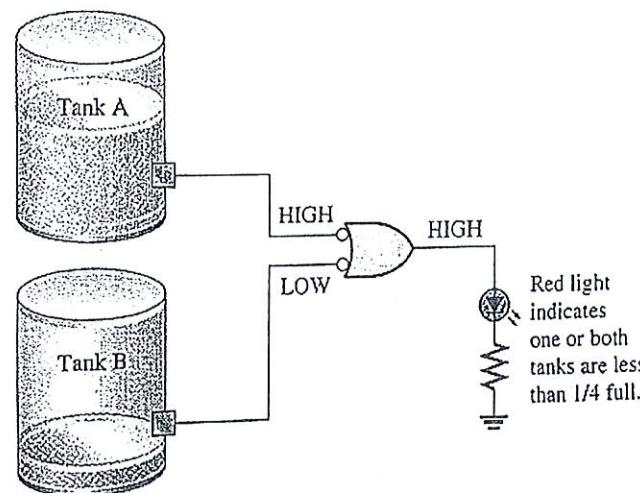

Figure 4 (c) / Rajah 4 (c)
- (c) A manufacturing plant uses two tanks to store certain liquid chemical that are required in a manufacturing process. Each tank has a sensor that detects when the chemical level drop 25% from full tank level. The sensor produces a HIGH level of 5V when the tank is more than one-quarter full. When the volume of chemical in a tank drops to one-quarter full, the sensor puts out a LOW level of 0V. It is required a red LED display come on when at least one of the tanks falls to the quarter full level. Refer to Figure 4 (c), if tank A or tank B or both are below one-quarter full, the LED is ON, build the embedded system to replace negative-OR gate with PIC microcontroller and write C program to control the operation.